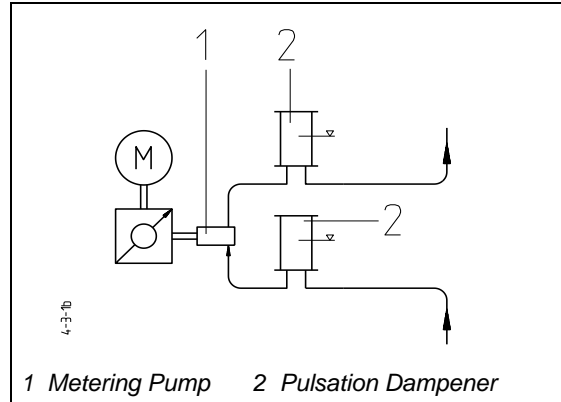

Fig. 4.3: Pulsation Dampener
**Mounting of Pulsation Dampers (Fig. 4.3)**